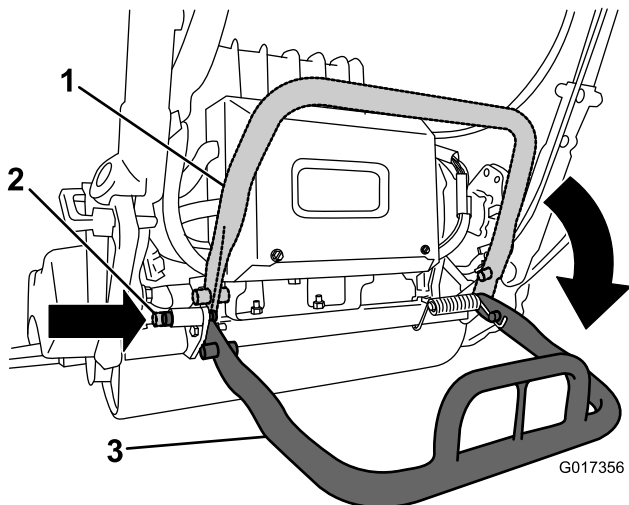

Figure 6
2. Lower the kickstand and push in the locking pin to lock the kickstand in the SERVICE position (Figure 6). Allow the machine to rest on the locked kickstand.